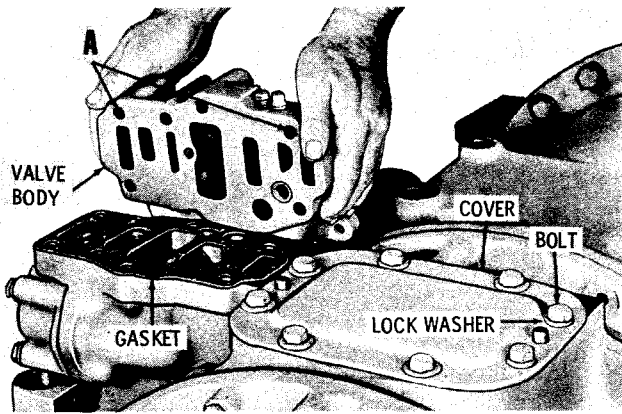

Fig. 7-104. Installing main-pressure regulator valve body assembly (current models except VCLT, VCLBT)
(15) Install the power takeoff cover gasket, and cover. Secure with eight 7/16-14 x 7/8-inch bolts and lockwashers (fig. 7-104). Tighten the bolts to 42 to 50 pound feet torque.
(16) Install the gasket and main-pressure regulator valve body assembly (fig. 7-104). When a remote-mounted filter is used, secure the regulator valve body with seven 7/16-14 x 3 1/2-inch bolts and lockwashers. Tighten the bolts to 42 to 50 pound feet torque. When a normal filter installation (filter shells toward the rear) is to be made atop the pressure regulator, install and tighten only two 7/16-14 x 3 1/2-inch bolts and lockwashers, in holes marked A (fig. 7-104).
(23) Install the gasket and oil filter and adapter base assembly onto the main-pressure regulator valve body assembly. Retain it with five 7/16-14 x 8 1/4-inch, and two 7/16-14 x 4 1/2-inch bolts and lockwashers. Tighten the bolts to 42 to 50 pound feet torque.
(24) Install gasket 36 (B, foldout 9) and adapter plate 35. Install gasket 34 and filter adapter assembly 5.
(25) When plate 35 is 1.47 inches high, retain the filter adapter assembly with five 7/16-14 x 6-inch, and two 7/16-14 x 4 1/2-inch bolts. When plate 35 is 2.41 inches high, retain the filter adapter assembly with five 7/16-14 x 7-inch, and two 7/16-14 x 4 1/2-inch bolts. Tighten the bolts to 42 to 50 pound feet torque.
(26) Install the gasket and main-pressure regulator valve body assembly (fig. 7-104). Retain the valve body assembly with three 7/16-14 x 3 1/2-inch bolts and lockwashers. Tighten the bolts to 42 to 50 pound feet torque.
(27) Install gasket 32 (A, foldout 9) and oil filter adapter 55. Retain the adapter with one 7/16-14 x 1 1/2-inch bolt 52, three 7/16-14 x 4-inch bolts 51, and two 7/16-14 x 6 1/4-inch bolts 50 and lockwashers. Tighten the bolts to 42 to 50 pound feet torque.
(28) Install gasket 49 and filter assembly 7 (filter shells toward front). Retain the filter assembly with four 7/16-14 x 4 3/4-inch bolts 1 and three 7/16-14 x 5 1/4-inch bolts 2 and lockwashers. Tighten the bolts to 42 to 50 pound feet torque.